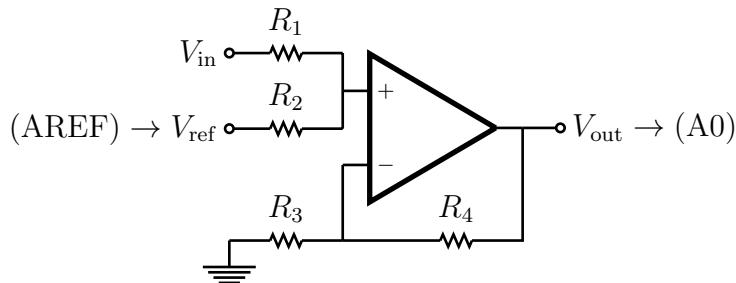

Figure 4: A DC level-shifter with unit gain. The points (AREF) and (A0) refer to the Arduino pins, which should be connected as shown.
The low-pass filter in Fig. 3 is used to convert PWM output (on pin 5 of the Arduino) into a DC reference voltage V_{ref} . This reference voltage is used as (1) the reference for the ADC, at pin AREF, setting the dynamic range of the ADC, and (2) the reference to the DC level shifter circuit in Fig. 4 so that input to the ADC is referenced to $V_{\text{ref}}/2$. In this way, we can adjust V_{ref} to match the dynamic range of our signal, and the DC offset will be set to the middle of this range. This will ensure that even for small signals, the full 8-bit precision of the ADC is being put to use.